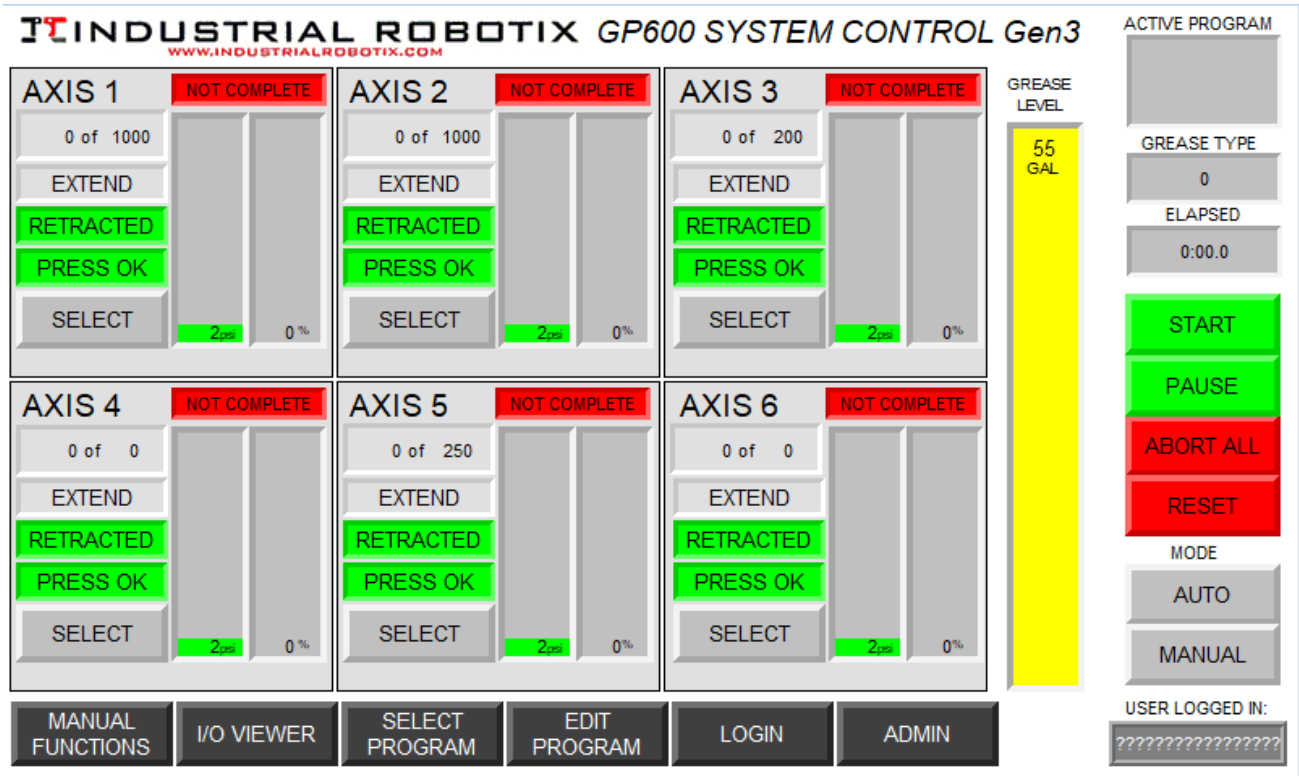

FIGURE 2
- 3.3.4 The HMI MAIN SCREEN DISPLAY is shown in Figure 2 below.
Refer to Figure 2 above. This is the main operation screen of the system and is not security enabled.